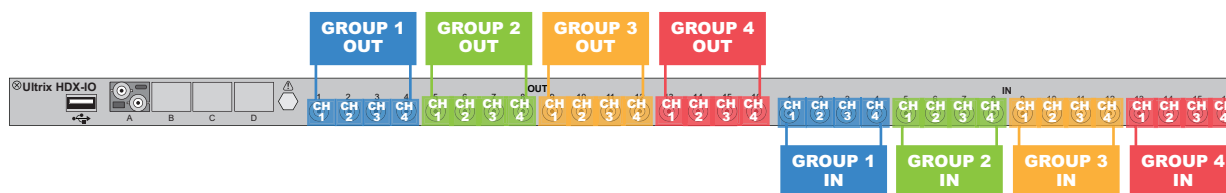

Figure 29 Example of Gearbox Mapping on a Single ULTRIX-HDX-IO Blade
**Figure 29** illustrates the connections allocated for Gearbox groups on the ULTRIX-HDX-IO blade.